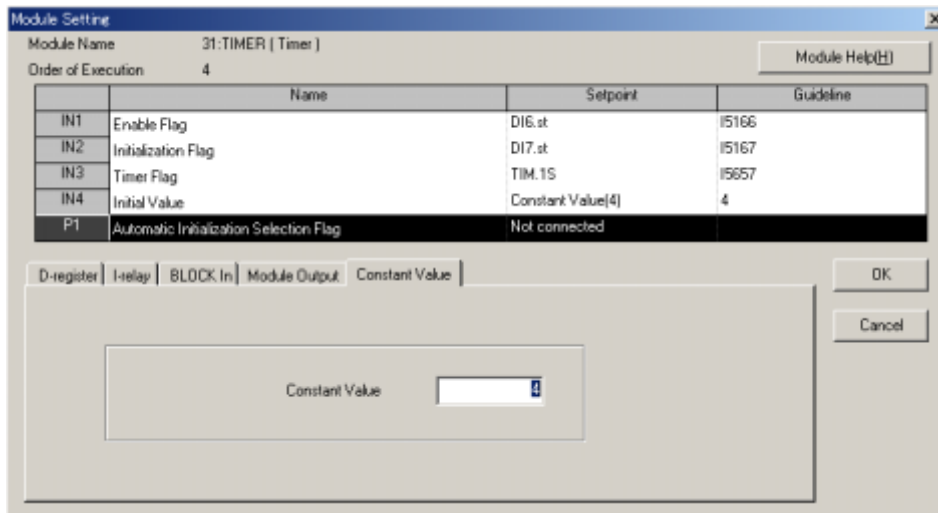

Figure 12.5.10 Configuration of the <IN4> Input
- (13) The <IN4> module input is waiting for the data setting.
- (14) Click the <Constant Value> index.
- (15) Type “4” in the text box and press the <Enter> key. (Figure 12.5.10)